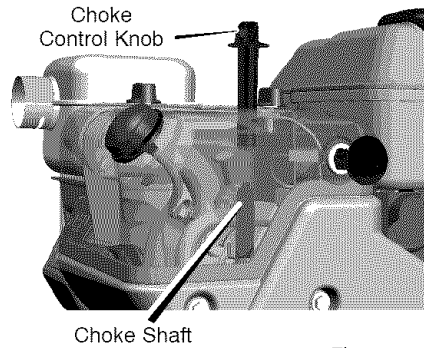
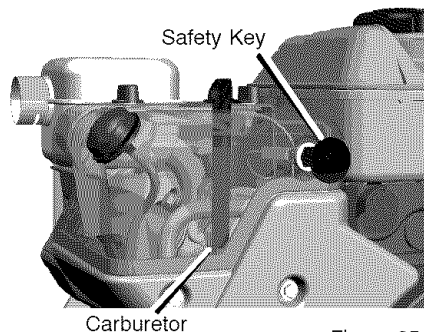

Figure 24
Figure 25
8. Connect the choke control knob with the choke shaft on the carburetor (see Figure 24 and Figure 25). Make sure the choke control knob is properly installed. If the choke control knob is not installed correctly, the choke will not operate.